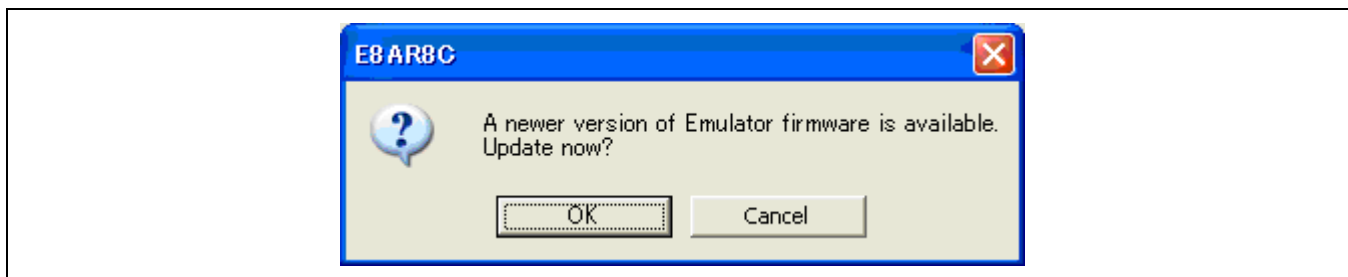

Figure 3.15 Dialog Box for confirming the E8a firmware download
9. When the version of the E8a firmware downloaded into the emulator is old, the message box shown in Figure 3.15 will be displayed.